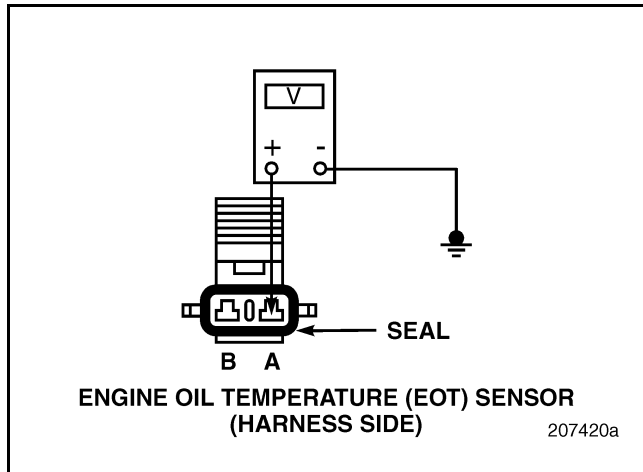

Figure 284
3. Measure voltage between EOT Sensor harness connector pin A and a good ground (see Figure 284).